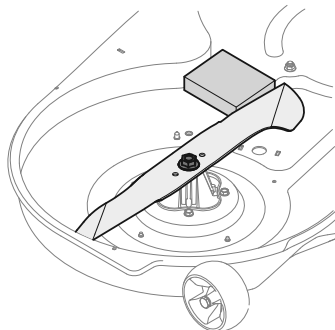

Figure 34
- Place a block of wood between the center deck housing baffle and the cutting blade to act as a stabilizer. See Figure 34.
- Remove the hex flange nut that secures the blade to the spindle assembly. See Figure 34.
- Place a block of wood between the deck housing baffle and the cutting blade to act as a stabilizer. See Figure 34.